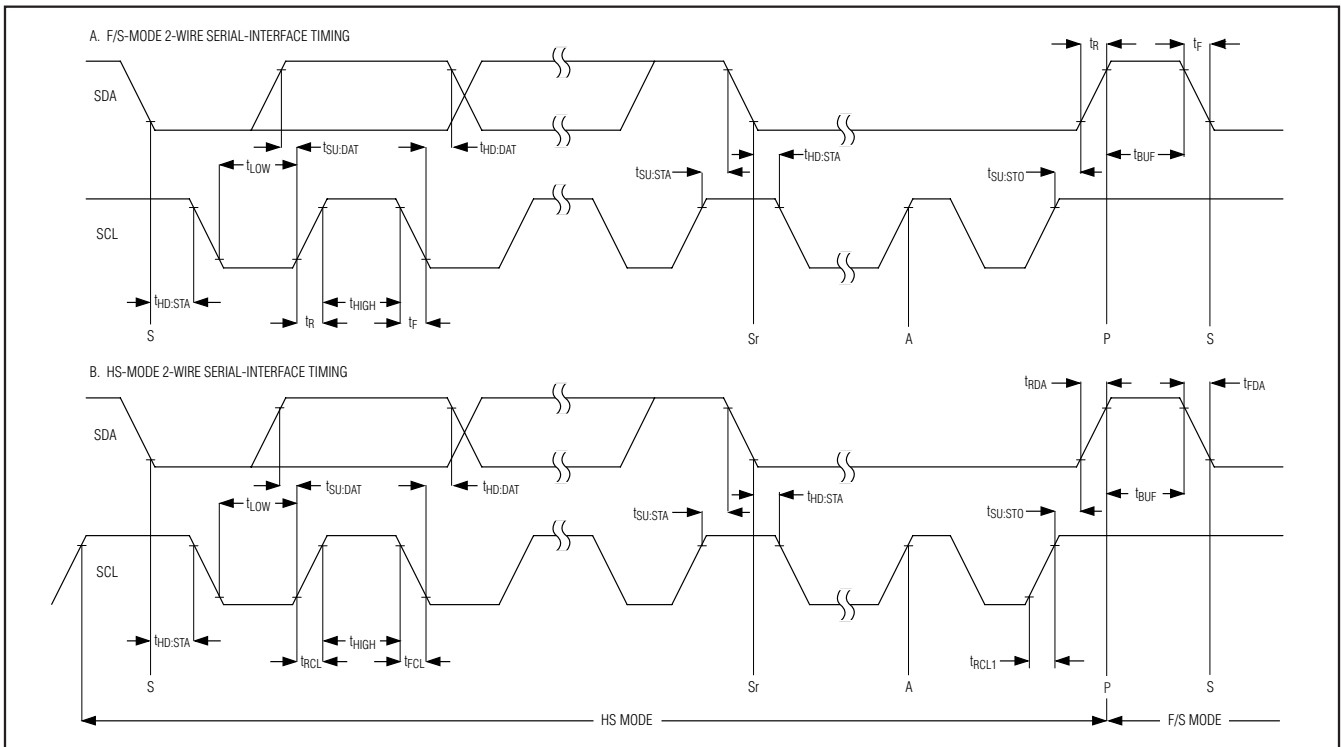

Figure 1. 2-Wire Serial-Interface Timing
### TIMING CHARACTERISTICS (Figure 1)
## TIMING CHARACTERISTICS (Figure 1) (continued)
**Note 10:** A master device must provide a data hold time for SDA (referred to VIL of SCL) to bridge the undefined region of SCL's falling edge (see Figure 1).
high-speed mode (HS mode) to achieve conversion rates up to 94.4ksps. Figure 1 shows the bus timing for the MAX11646/MAX11647's 2-wire interface.